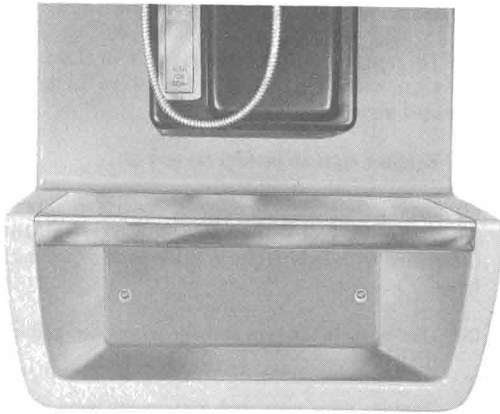

Fig. 4—Directory Compartment of KS-19945 Coin Telephone Shelf
3.02 The rear of the directory compartment has two mounting holes (Fig. 4). Hold shelf in place over backboard and mark the wall through these two holes.